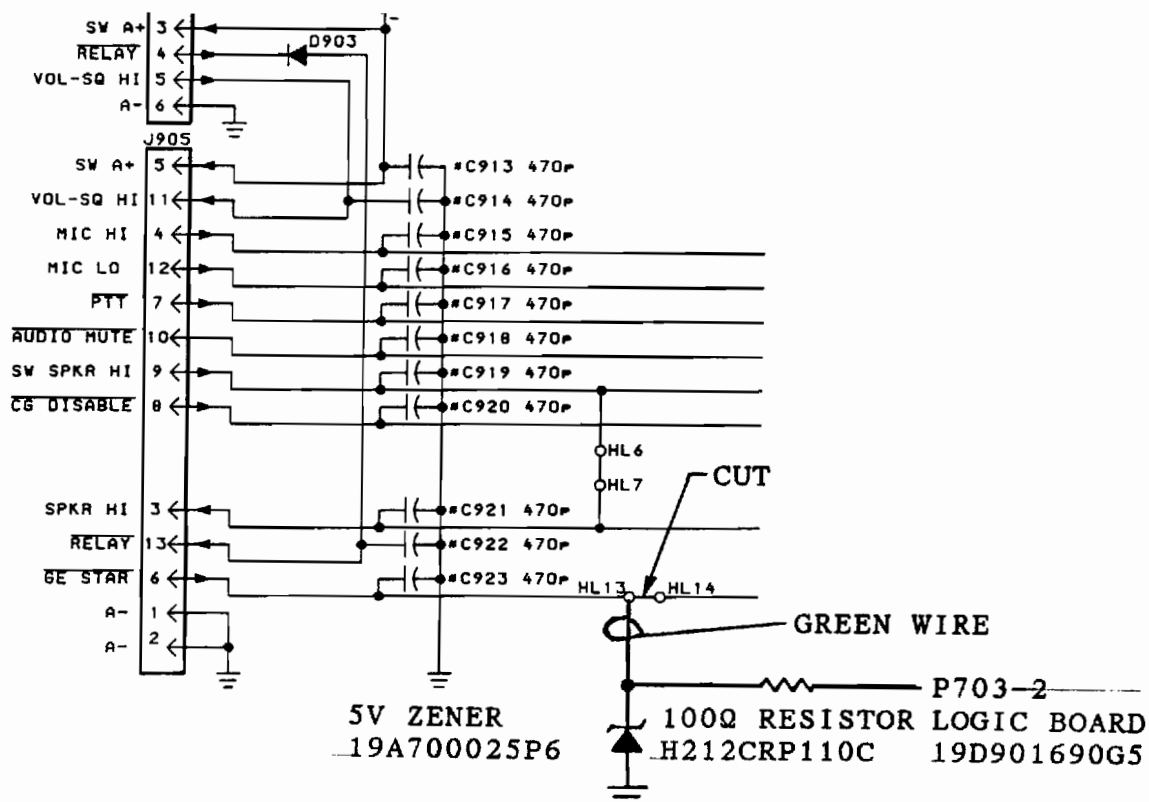

FIGURE 10
3. CONNECT GREEN WIRE FROM ZENER DIODE TO HL13 (FIGURE 10).